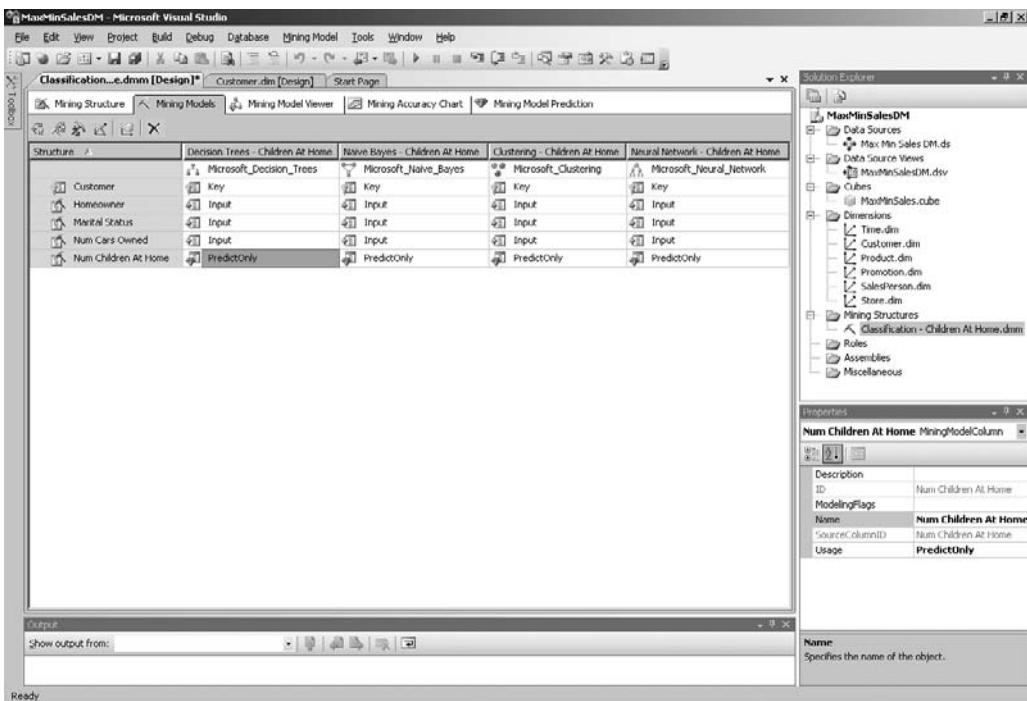

Figure 14-15 The Mining Models tab on the Data Mining Design tab
55. Click OK. The Mining Models tab appears as shown in Figure 14-15.